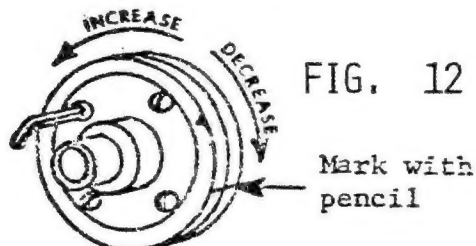

FIG. 12
3. Now, make a straight pencil mark from the steel to the brass case (fig. 12). This must be done so you will